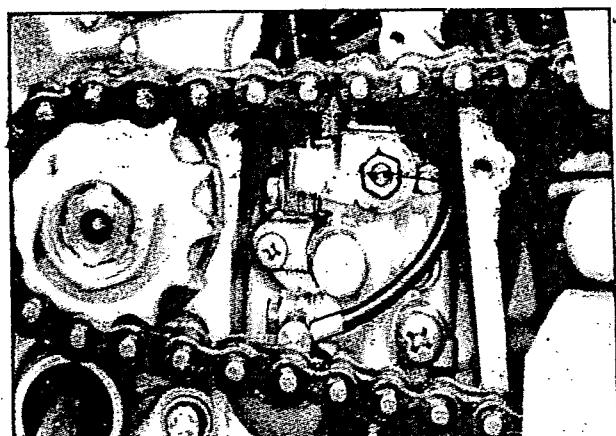

Fig 4.9
- Holding engine speed at the same 2000 rpm move the oil pump lever so as to align the maximum delivery mark on the lever with the mark on pump body (fig 4.9)